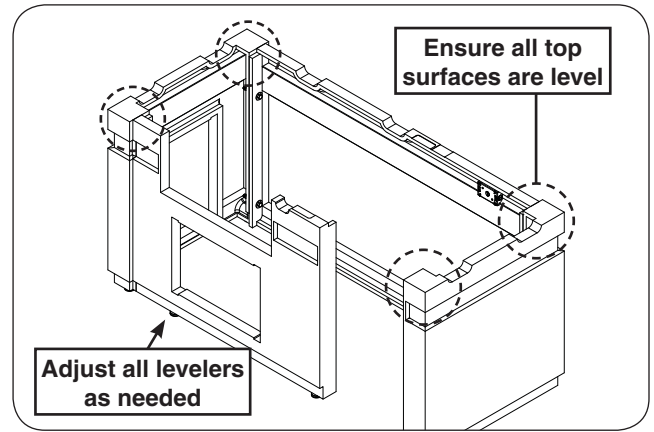

Fig. 11-1 Level assembly
1. Use the level to ensure the top surfaces of the assembly are level. The levelers at the bottom of the island may be adjusted as needed. See Fig. 11-1.